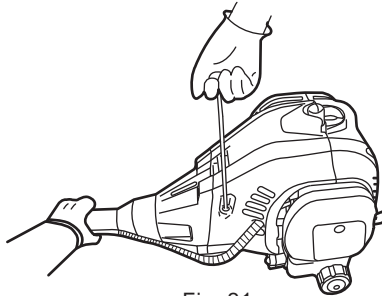

Fig. 21c
4. Hold the product stable and pull the recoil starter handle (A7) firmly; repeat until the engine starts. Allow the recoil starter rope to return slowly and controlled after each pull! (See Fig. 21c)